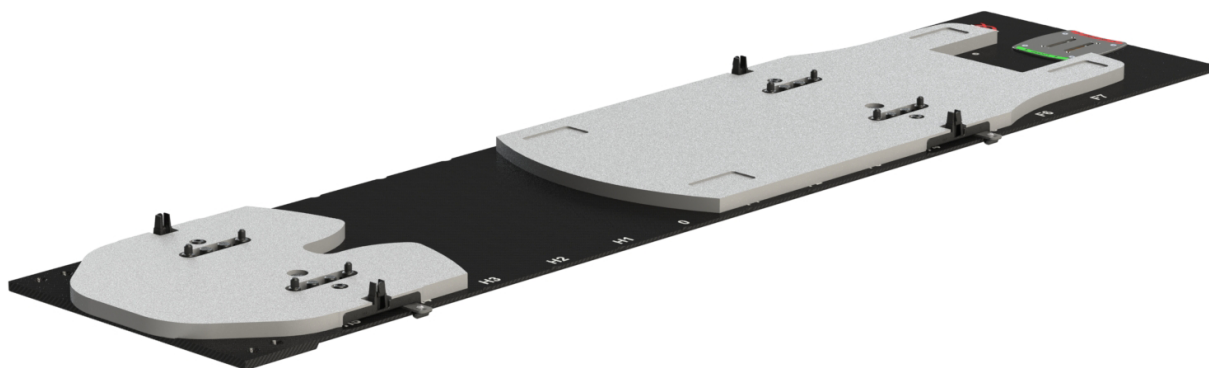

Fig. 8
2. Place CT Shims in the same indexing spot as Foot and Head Components. CT Shims may be stacked on each other to increase the height by 2.5 cm increments. (Fig. 8)